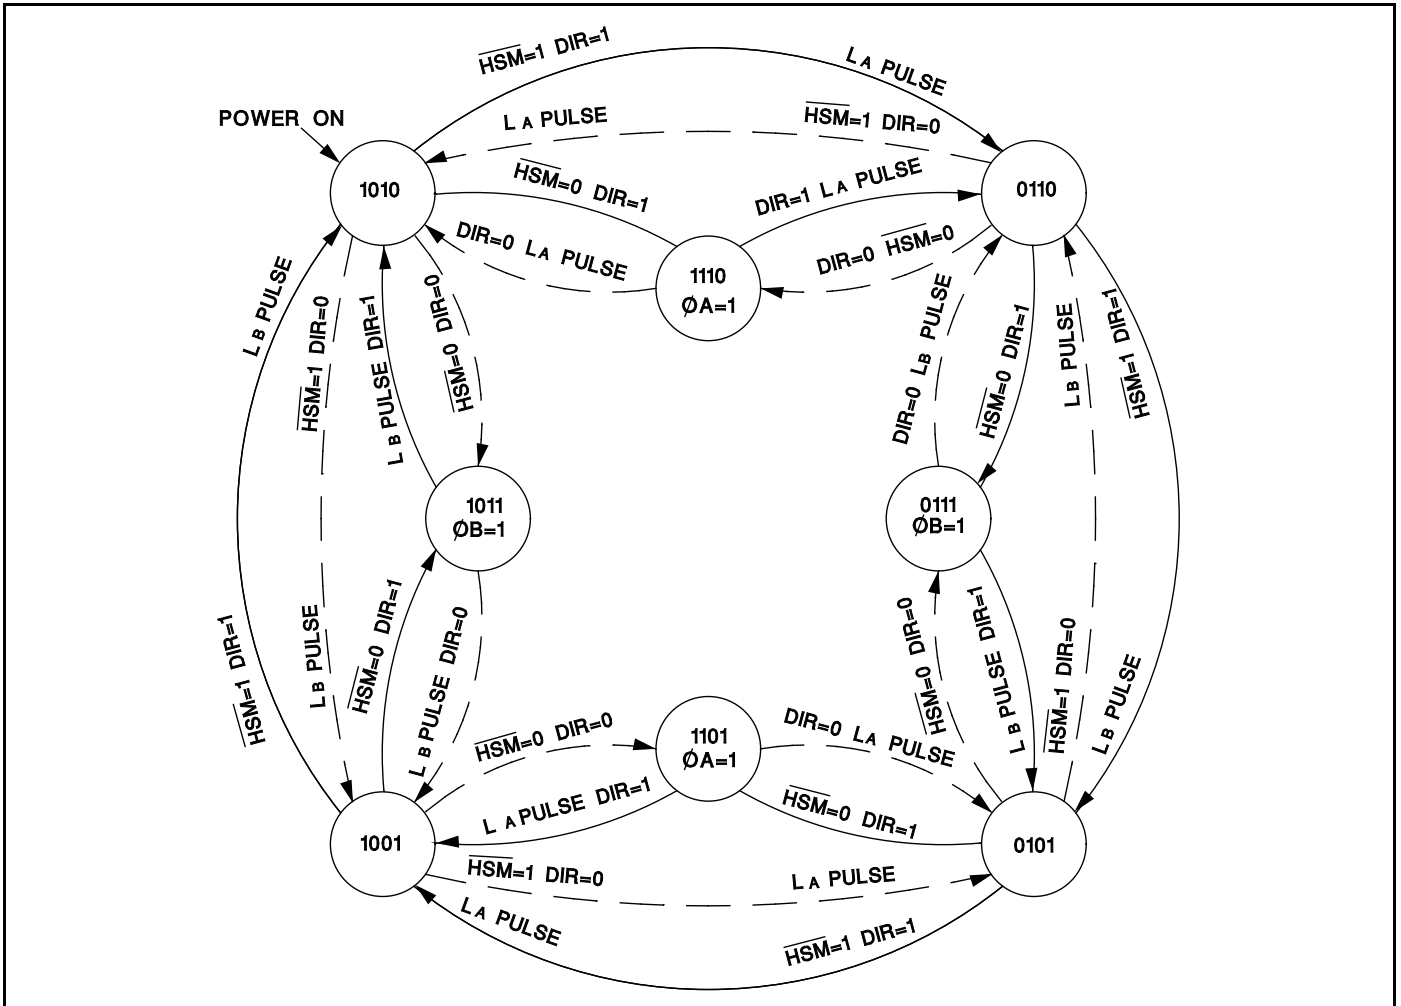

Figure 5. Logic Flow Graph
as shown in Figure 8. The sequencing of these outputs is shown in Figure 5.
**PA1, PA2, PB1, and PB2:** The phase outputs pull to ground sequentially to cause motor stepping, according to the state diagram of Figure 5. The sequence of stepping on these lines, as well as with the LA and LB lines is controlled by STEP input, the DIR input, and the HSM input. Caution: If these outputs or any other IC pins are pulled too far below ground either continuously or in a transient, step memory can be lost. It is recommended that these pins be clamped to ground and supply with high-speed diodes when driving inductive loads such as motor windings or solenoids. This clamping is very important because one side of the winding can "kick" in a direction opposite the swing of the other side.
**LA and LB:** These outputs pull to Vss when their corresponding monostable is active, and will remain high until the monostable time elapses. Before and after, these outputs are high-impedance. For detail timing information, consult Figure 5.
**DIR:** This logic input controls the motor rotation direction by controlling the phase output sequence as shown in Figure 5. This signal must be stable 400ns before a falling edge on STEP, and must remain stable through the edge to insure correct stepping.
**HSM:** This logic input switches the UC3517 between half-stepping (HSM = low) and full-stepping (HSM = high) by controlling the phase output sequence as shown in Figure 5. This line requires the same set-up time as the DIR input, and has the same hold requirement.
The UC3517 contains a bidirectional counter which is decoded to generate the correct phase and  $\emptyset$  outputs. This counter is incremented on every falling edge of the STEP input. Figure 5 shows a graph representing the counter sequence, inputs that determine the next state (DIR and HSM), and the outputs at each state. Each circle represents a unique logic state, and the four inside circles represent the half-step states.